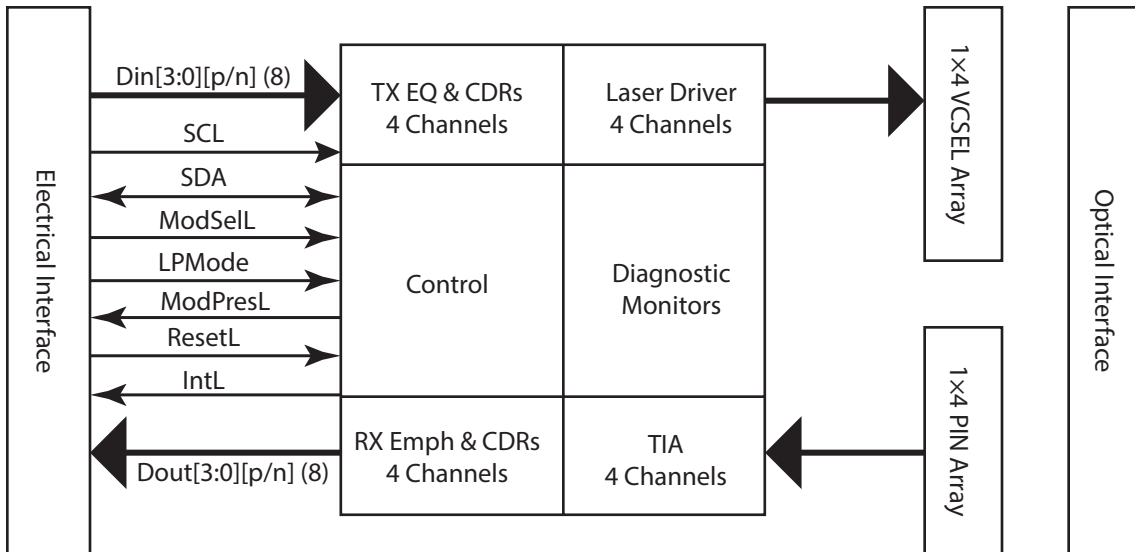

Figure 1: Transceiver Block Diagram
The optical transmitter portion of the transceiver (see Figure 1) incorporates a 4-channel VCSEL (Vertical Cavity Surface Emitting Laser) array, a 4-channel Equalization (EQ) block with integrated CDR and laser driver, diagnostic monitors, control and bias blocks. The transmitter is designed for IEC-60825 and CDRH eye safety compliance; Class 1 out of the module. The Tx Input Buffer provides CML compatible differential inputs presenting a nominal differential input impedance of 100 Ohms. AC coupling capacitors are located inside the QSFP28 module and are not required on the host board. For module control and interrogation, the control interface (LVTTTL compatible) incorporates a Two Wire Serial (TWS) interface of clock and data signals. Diagnostic monitors for VCSEL bias, temperature, and power supply voltage are implemented and results are available through the TWS interface.
The optical receiver portion of the transceiver (see Figure 1) incorporates a 4-channel PIN photodiode array, a 4-channel TIA array, and a 4 channel line driver with integral CDR, diagnostic monitors, control and bias blocks. The Rx Output Buffer provides CML compatible differential outputs for the high speed electrical interface presenting nominal single-ended output impedances of 100 Ohms differentially that should be differentially terminated with 100 Ohms. AC coupling capacitors are located inside the QSFP28 module and are not required on the host board. Diagnostic monitors for optical input power are implemented and results are available through the TWS interface.